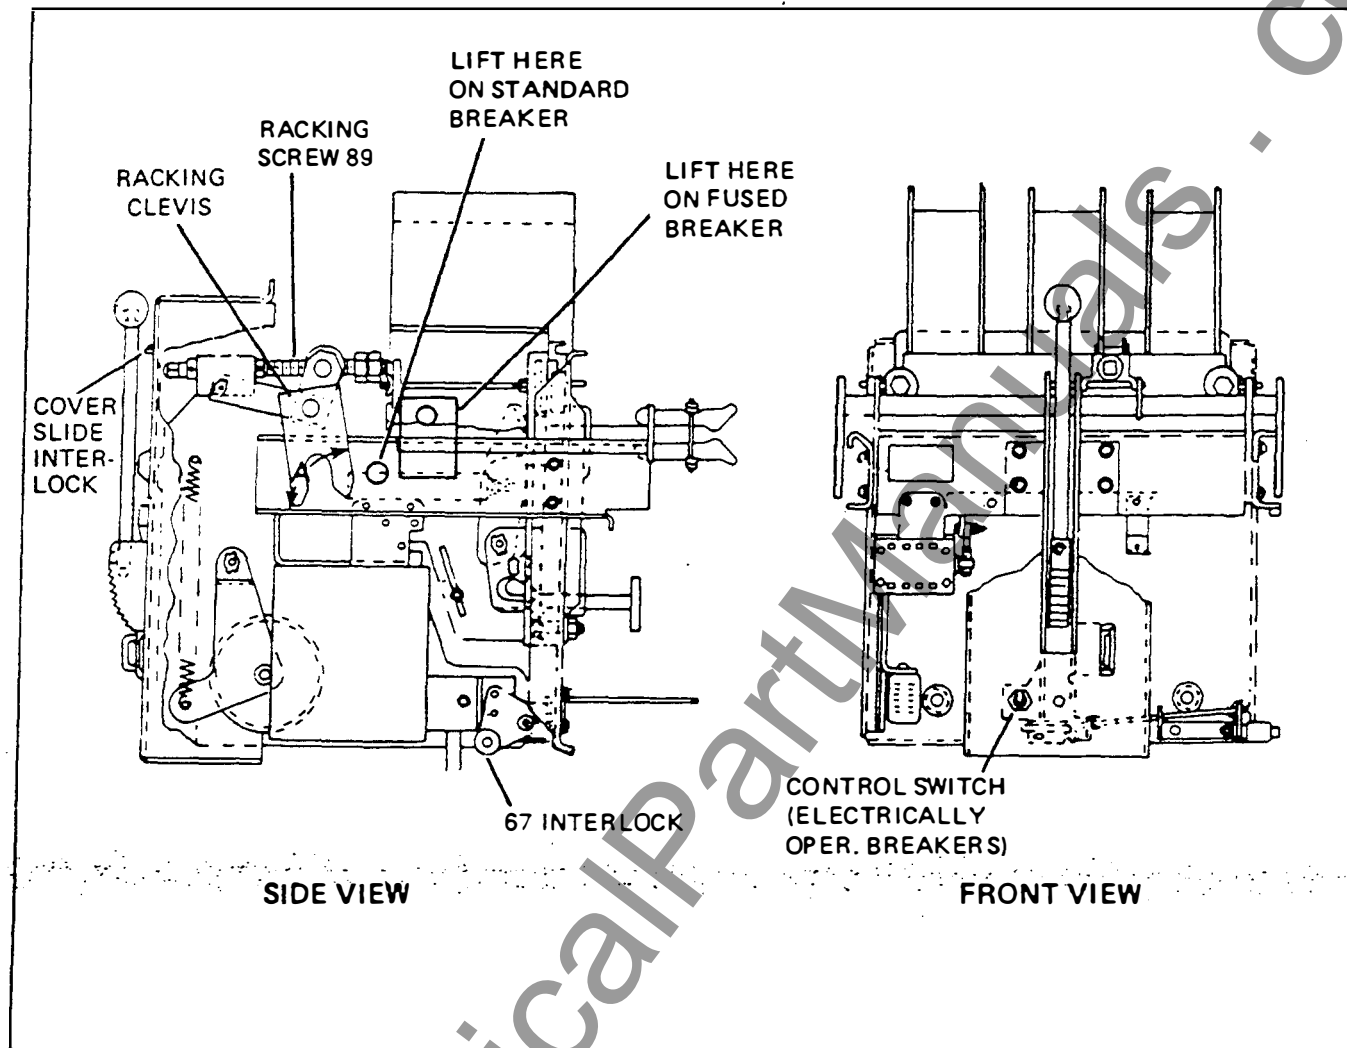

Figure 3A. Typical Racking Mechanism and Drawout Interlock
2. With the racking crank, rotate the racking screw (89) until the racking shaft is in the disconnected position. The clevis can now engage the racking pins in the cubicle. The circuit breaker should now be pushed along the rail into the DISCONNECTED position. Double check that the racking clevis does engage the pins in the cubicle.
3. Counterclockwise rotation of the racking screw will rack the breaker into the TEST position. At the TEST position, the cover slide interlock can be closed, allowing the trip bar to reset and the circuit breaker can be operated. Between the TEST position and the CONNECTED position, interlock IT67 Figure 3A will engage the cubicle interlock cam IT509 Figure 3A and the circuit breaker will be held TRIP-FREE and cannot be closed.
### Lifting Bar (Figure 3A)